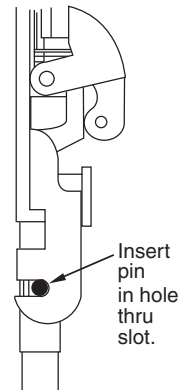

Figure 17
3. Insert pin. (Figure 17)
5. If latch does not retract completely, remove pin and turn connector out one (1) turn.